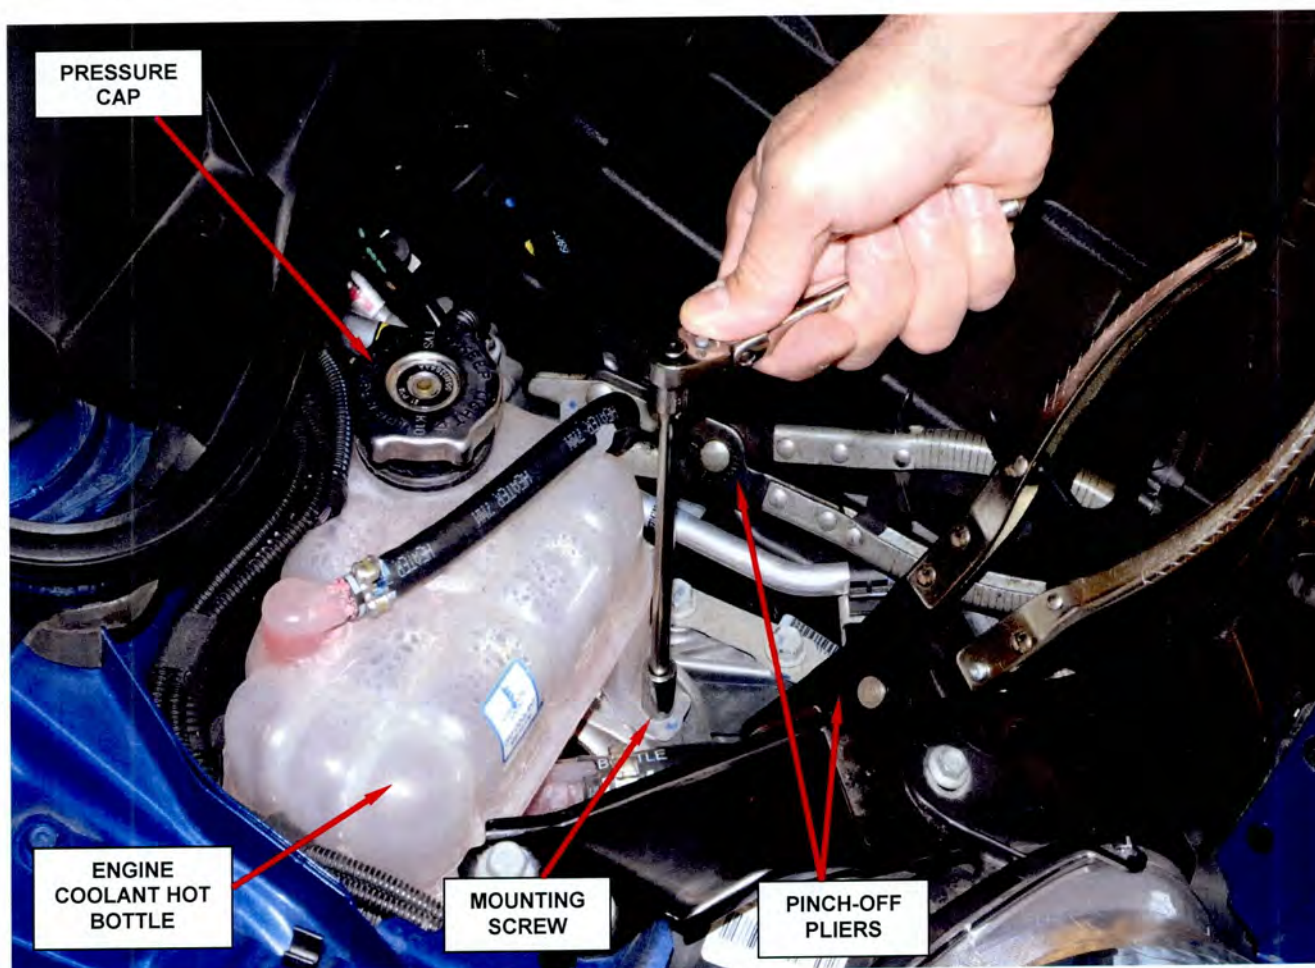

Figure 1 – Clamp-off Engine Coolant Hot Bottle Hoses
2. Clamp off the small coolant hose at the engine coolant hot bottle with hose pinch-off pliers (Figure 1).
3. Clamp off the large coolant hose at the engine coolant hot bottle with hose pinch-off pliers (Figure 1).
4. Remove and save the engine coolant hot bottle mounting screw (Figure 1).